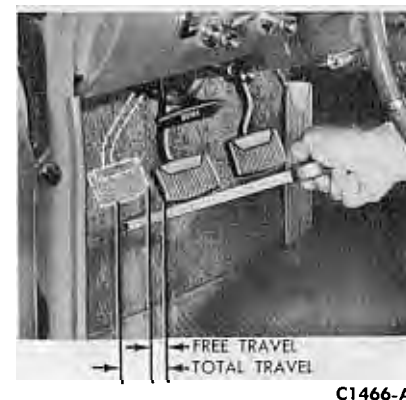

FIG. 26—Typical Clutch Pedal Free-Travel
pedal (Fig. 26). If the travel is not within specification, move the clutch pedal bumper and the bracket up or down until the travel is within specified limits. **Always check and adjust total travel before checking free travel.**
3. With the engine idling, depress the pedal just enough to take up the free travel and note the reading on the tape (Fig. 26). The difference between this reading and the reading where the pedal is released is the clutch pedal free travel. If the free travel is not within specification, adjust the clutch pedal to equalizer